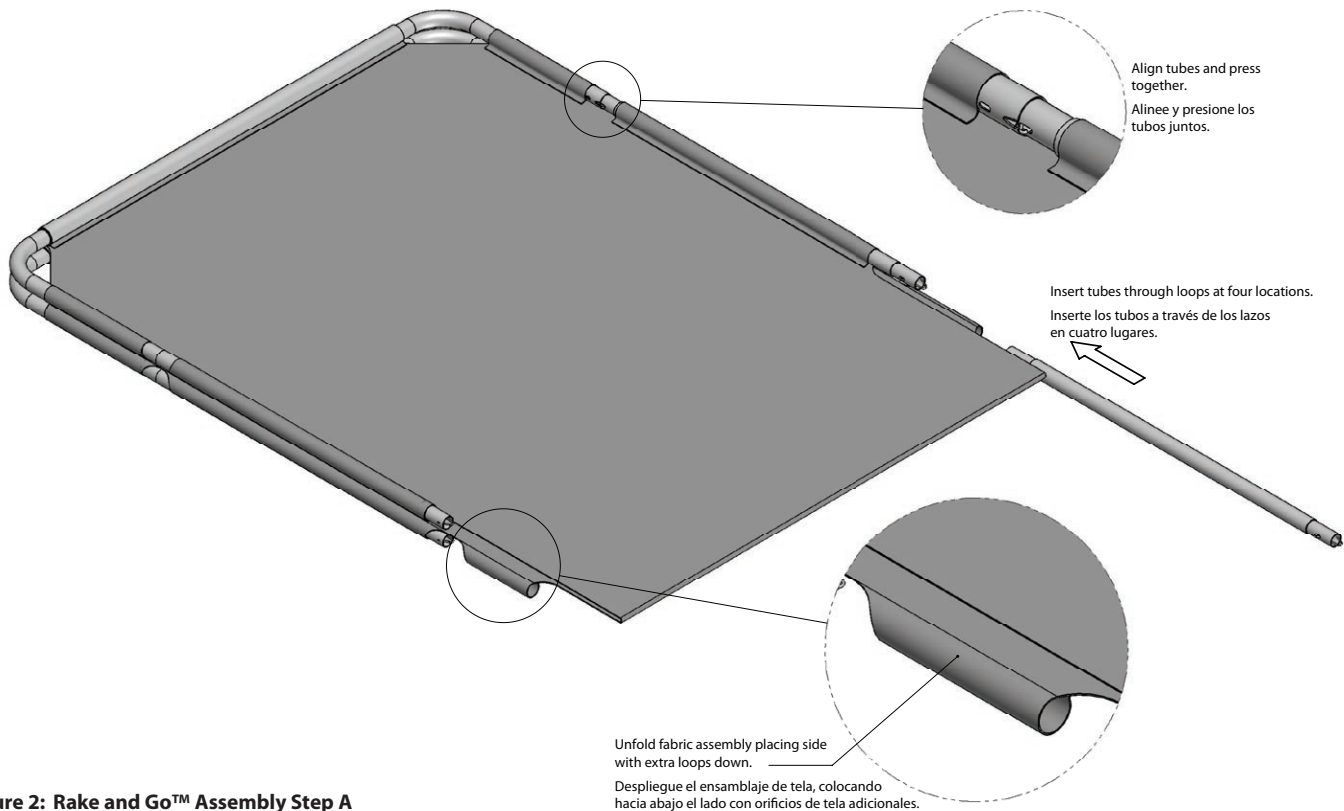

Figure 2: Rake and Go™ Assembly Step A
A) Prepare Fabric: Unfold Fabric Assembly flat keeping the two Handle Tubes together as shown in Figure 2.
B) Attach Frame Tubes: Insert Frame Tube through a fabric loop and into the handle tube as shown in Figure 2. Press and twist until the spring clip clicks into alignment. Repeat this step in each loop—four locations.